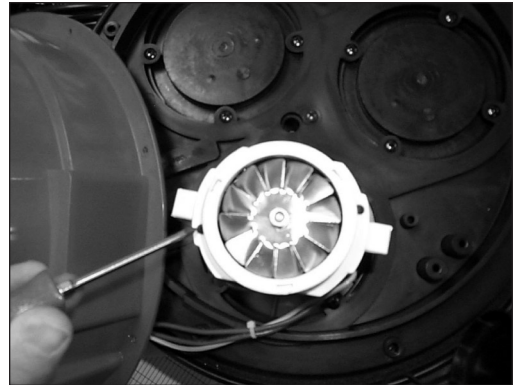

Fig. 1
This machine uses a 120 volt AC 60 cycle electrical circuit. Make sure you have the correct frequency and voltage before connecting the power cord to an outlet. The machine has a plug as shown in Figure 1. If a receptacle connected to the electrical ground as shown in Figure 1 is not available, have one installed by an electrical contractor. Do not use an adapter.
3. Remove the motor cover by removing two screws. **See Figure 1**